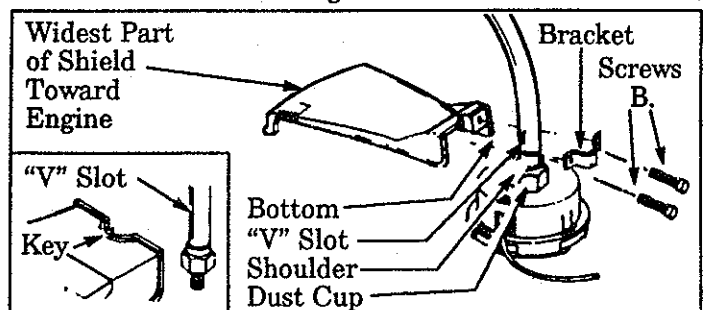

Figure 7
- Match the Key on the Shield with the "V" slot on the Drive Shaft Housing. Figure 7 .
- Rest the bottom of the Shield on top of the shoulder (not on the Dust Cup) of the Drive Shaft Housing. Figure 7 .
- Install the Shield Retaining Bracket and Screws "B." as Shown in Figure 7 .